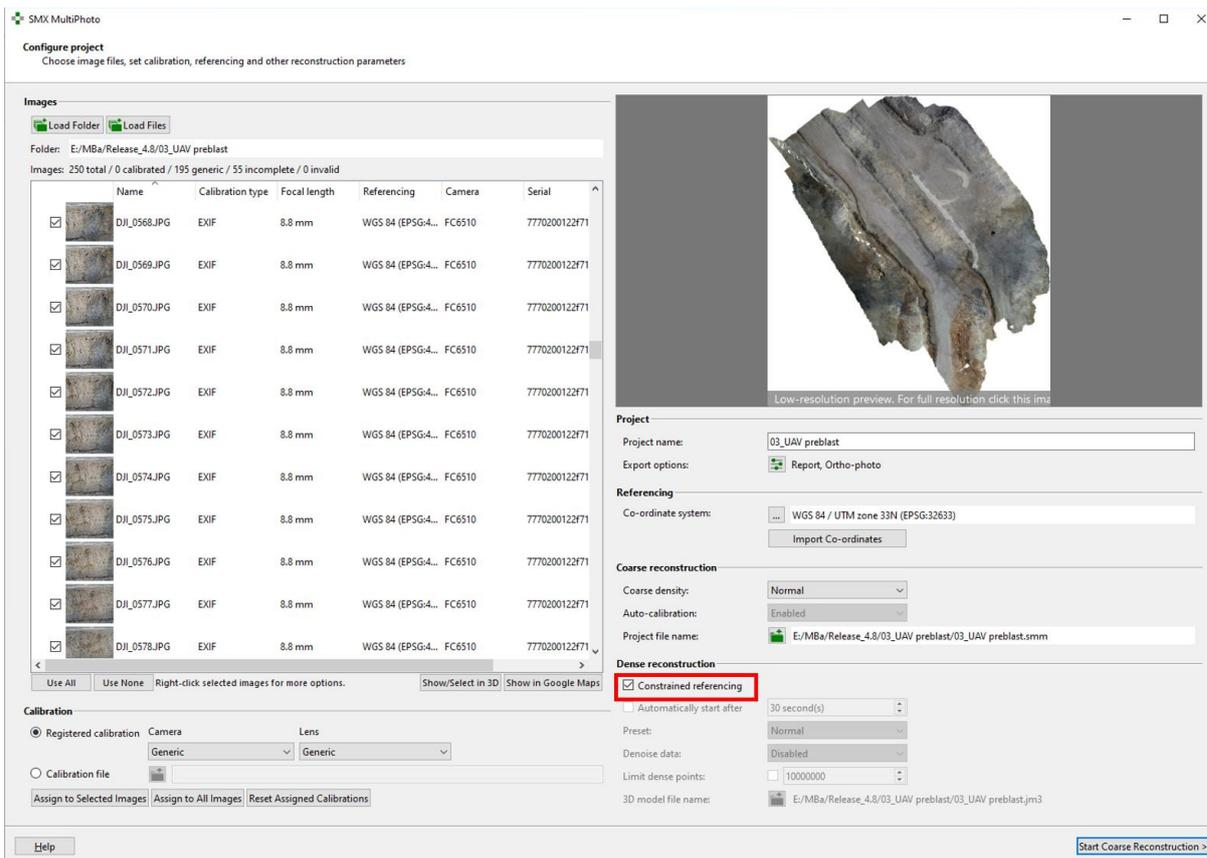

Figure 31: Enabling of the Constrained Referencing Mode
9. Enable the reference mode *Constrained Referencing* (Figure 31)